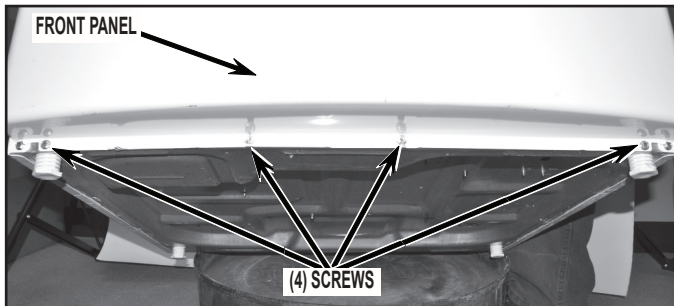

FIGURE 6
8. Remove four (4) screws from bottom of front panel as shown in *Figure 6*.